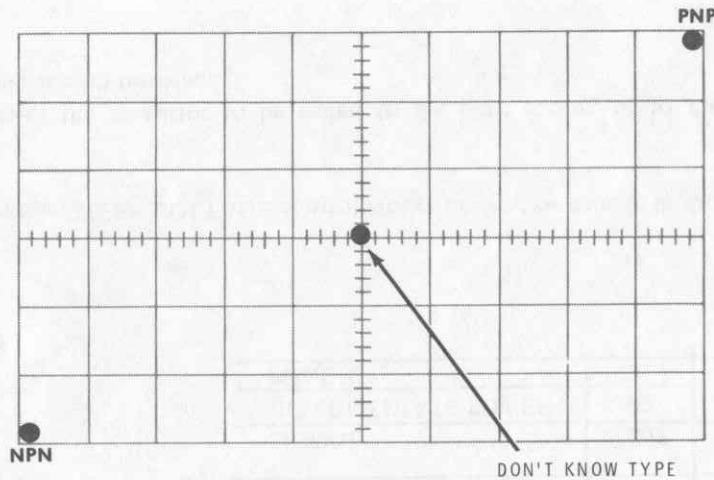

Figure 2-4
- ( ) If the transistor is an NPN, place the dot in the lower left-hand corner of the screen. If it is a PNP, place it in the upper right-hand corner of the screen. If you don't know if it is NPN or PNP, place the dot in the middle of the screen as shown in Figure 2-4.
2. Refer again to Figure 2-4, turn the SWEEP VOLTAGE control fully counter-clockwise, and place the dot in the appropriate corner of the screen for NPN or PNP.